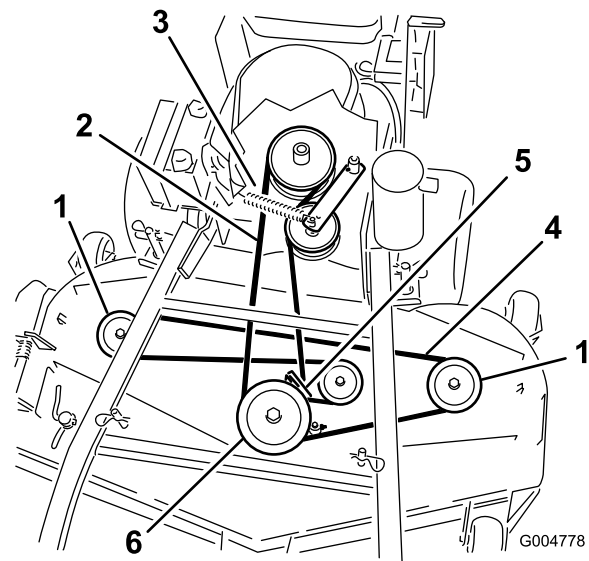

Figure 60
6. Disconnect the idler arm spring to relieve tension on the idler arm and idler pulley, then remove the worn mower belt (Figure 60).
7. Install the new mower belt around the two outside spindle pulleys, the idler pulley, and in the lower groove of the double spindle pulley (Figure 60).
8. Connect the idler arm spring (Figure 60).
10. Adjust the belt guide an 1/8 inch (3 mm) from the belt (Figure 60).